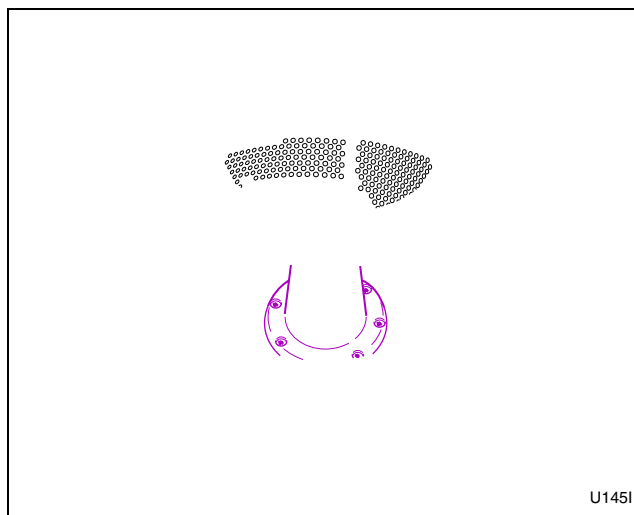

Figure 14
8. When cycle is finished, place washables in extract-rinse compartment. Distribute evenly around agitator. Refer to *Figure 14*.